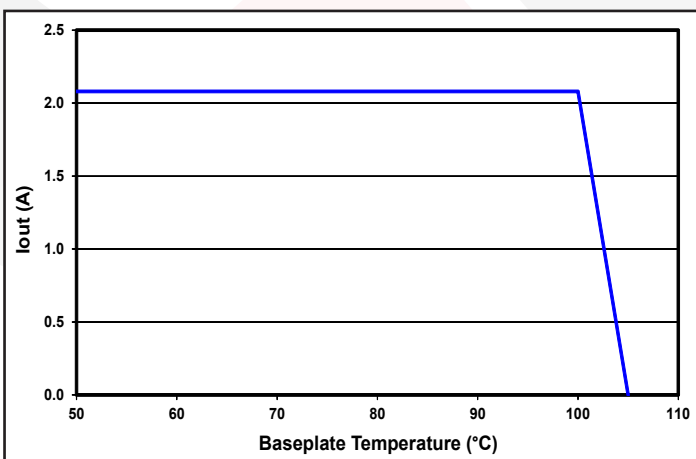

Figure 5: Maximum output current vs. baseplate temperature (nominal input voltage).
**THERMAL CONSIDERATIONS:** The maximum operating baseplate temperature,  $T_B$ , is 100 °C. Refer to the thermal derating curve, Figure 5, to see the available output current at baseplate temperatures below 100 °C.